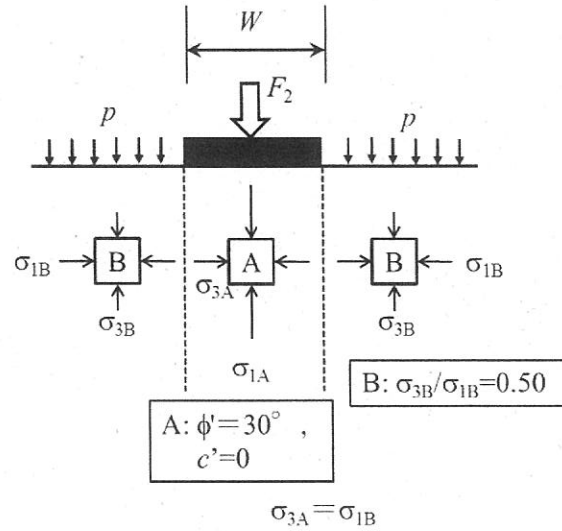

Figure 5
- Failure of subsoil does not always occur simultaneously, but takes place in a progressive manner starting from the region near the foundation. As shown in Fig. 5, assume that the stress state A is the same failure state as in a), while the stress state B is a pre-failure